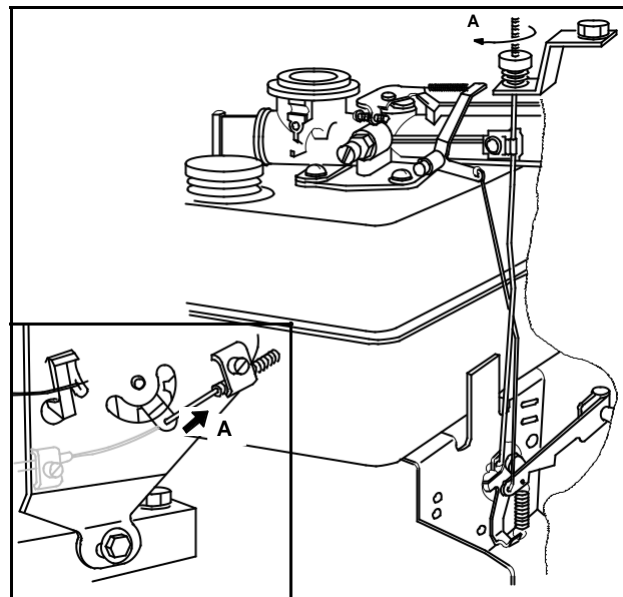

Fig. 56
Standard governor control. Turn thumbscrew clockwise as indicated (A) to increase speed. Inset: remote control cable moves as indicated to increase speed (A) Fig. 56.